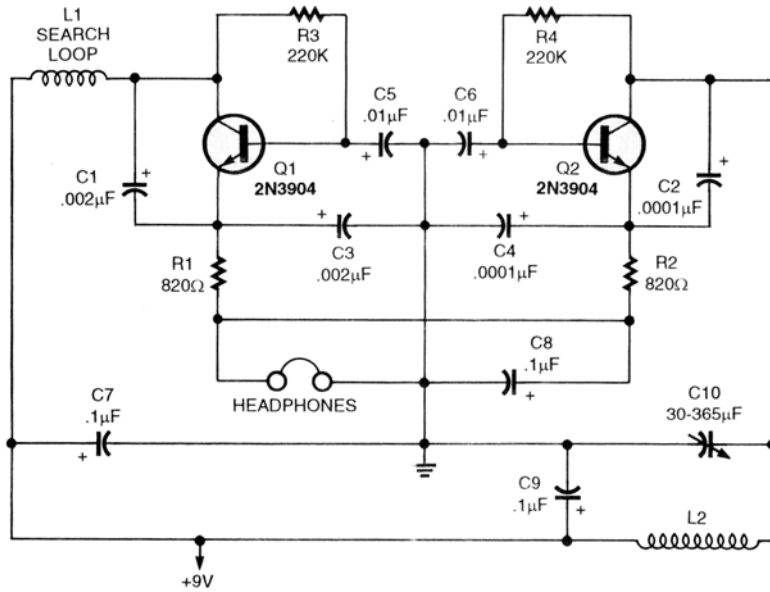

Fig. 9. This is the schematic for a Beat Frequency Oscillator metal-detector. Two transistors are used as the oscillators in this circuit.
One of the simplest BFO metal locators to build is the two-transistor circuit shown in Fig. 9. The circuit may be set up to operate on any frequency between 50,000 Hz to over 1 MHz by selecting the tank circuit components. Just about any good general-purpose NPN transistor suitable for low RF applications will work just fine. The search loop can be as small as a dime or three feet or larger in diameter. A small loop works best for small objects buried shallow and a large loop works best for large objects buried at greater depths. The two oscillator circuits should be separated and shielded from each other to reduce frequency pulling between the two. A really well constructed BFO detector will be able to operate with a difference of less than 100 Hz between the two oscillators. The lower the audio output tone the easier it is for the ear to tell a small frequency shift. The detector's maximum sensitivity is obtained when the two oscillators are operating just a few cycles apart. Believe me, this is not an easy task to accomplish, but one well worth the effort.
**PARTS LIST FOR ALL METALS DETECTOR CIRCUIT (FIG. 9)**